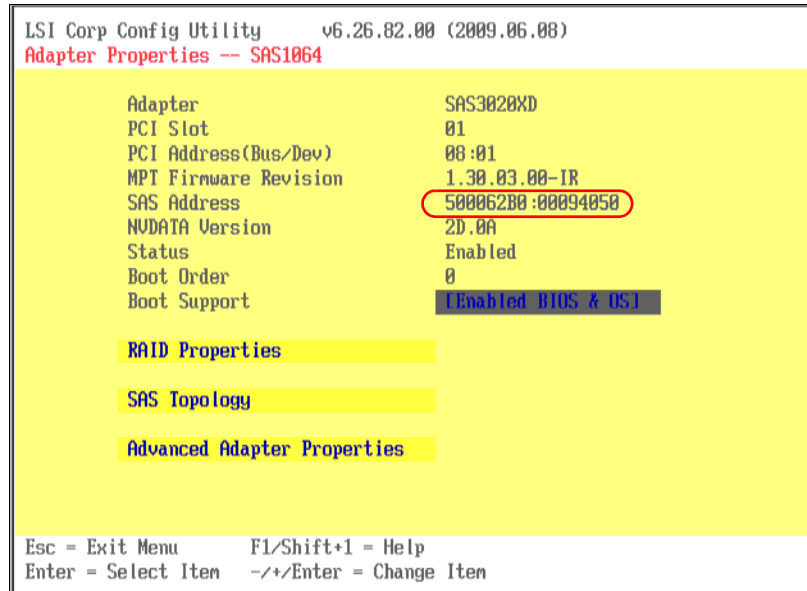

Figure 16-4 SAS Expansion Card - LSI Logic Config Utility adapter selected
- Press the Enter key to select the SAS adapter that is internally connected to the SAS Connectivity Module in I/O Module bay 3, as shown in Figure 16-4.